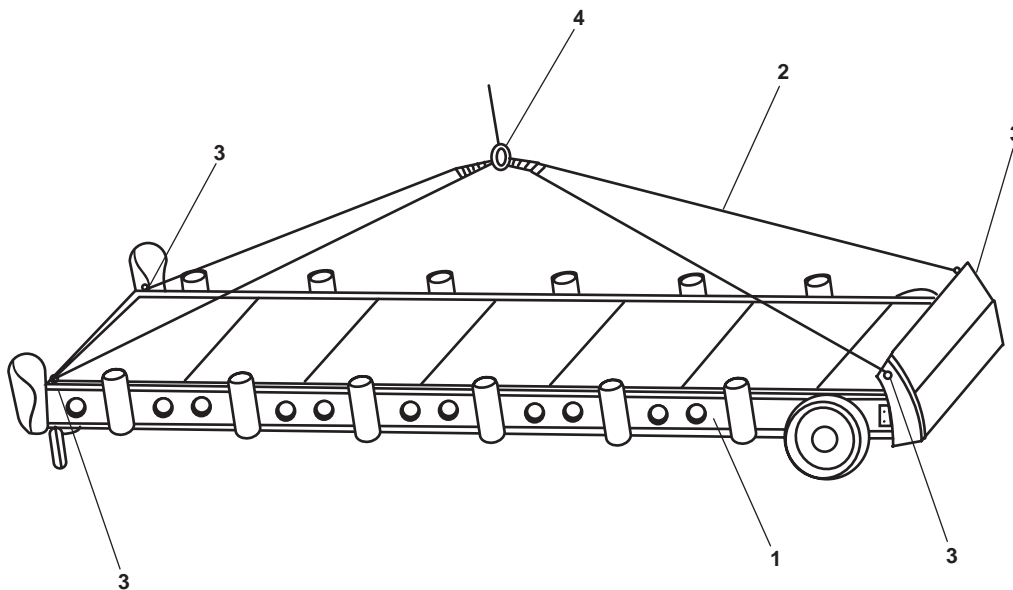

Figure 4. Rigging the Gangplank
2. Operate the crane (WP 0086 00) into position over the gangplank (figure 4, item 1).
3. Ensure that the lifting sling (figure 4, item 2) is securely attached at lift points (figure 4, item 3).
4. Attach the crane hook to the sling lifting ring (figure 4, item 4).
5. Operate the crane (WP 0086 00) to move the gangplank (figure 4, item 1) into position.
6. Install the side rails on the gangplank (figure 4, item 1).
7. Remove the sling from the gangplank (figure 4, item 1) and secure the crane (WP 0086 00).
3. Remove the handrails from the gangplank (figure 4, item 1).
4. Ensure that the lifting sling (figure 4, item 2) is securely attached at the lift points (figure 4, item 3).
5. Attach the crane hook to the sling lifting ring (figure 4, item 4).